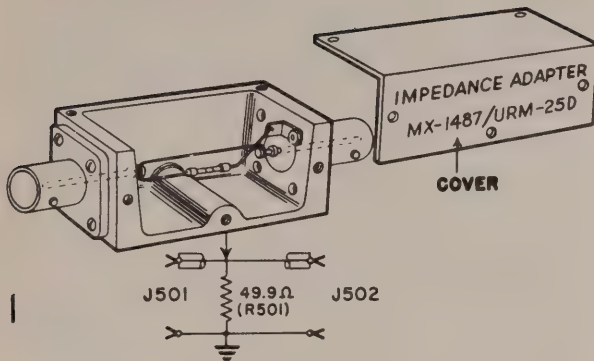

Figure 4-3. Impedance Adapter MX-1487/URM-25D
- (1) Follow steps for internal modulation; except step (1).
- (2) Audio voltage proportional to reading on M101 is available at EXT MOD IN jack (J105). When the meter reads "50", approximately 2.5 volts open circuit are available.
- b. Set MOD-XTAL & METER SELECTOR knob (117) to EXT position.
- a. When the 50 ohm cable assembly (W104) is plugged into the X-MULT RF OUTPUT jack (J102) and terminated properly (50 ohms), no standing waves will be present. An impedance adapter MX-1487 URM-25D consisting of a 50 ohm composition resistor (R501), contained in a rectangular aluminum case (figure 4-3)